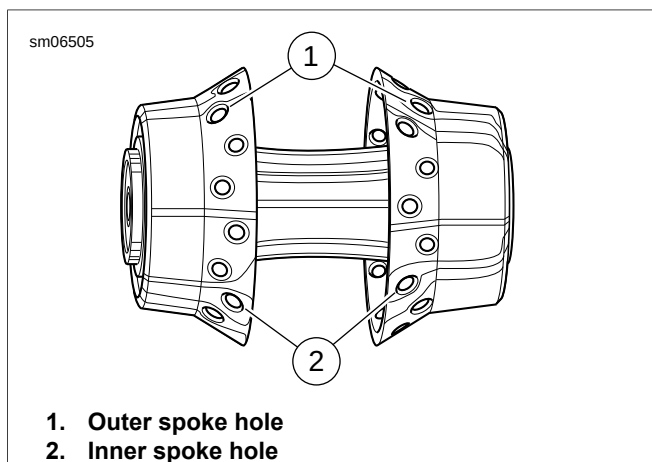

Figure 2-26. Angle Flange Hub
- See Figure 2-26. The following procedure is valid for wheels that use an angle flange hub regardless of rim style or diameter.